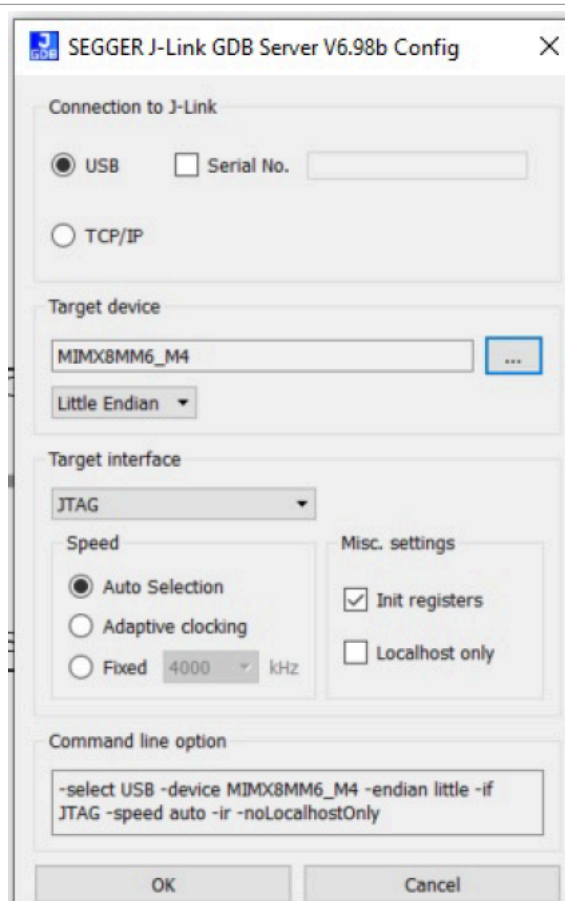

Figure 123. J-Link GDB Server application window
- After server is launched, modify the settings as shown in Figure 123. The target device selected for this demo is **MIMX8MM6\_M4**.